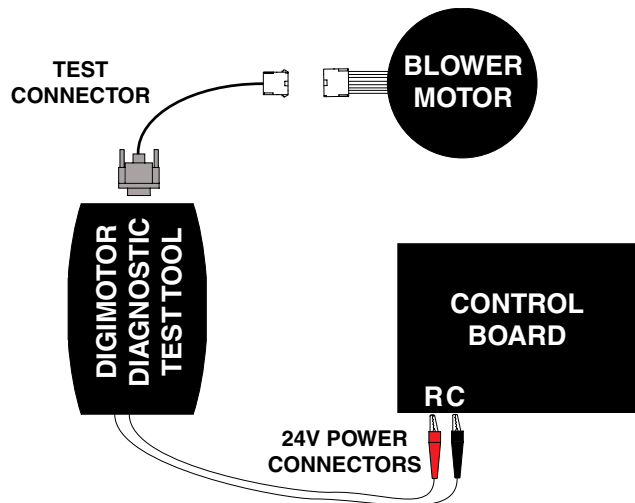

Figure 2. Digimotor Test Tool Setup
4. Connect the black and red alligator clips from the Digimotor Test Tool to **C** & **R** on the unit control board. See Figure 2. **NOTE:** For outdoor split systems, connect the alligator clips to both sides of the 24V coil on the unit transformer.